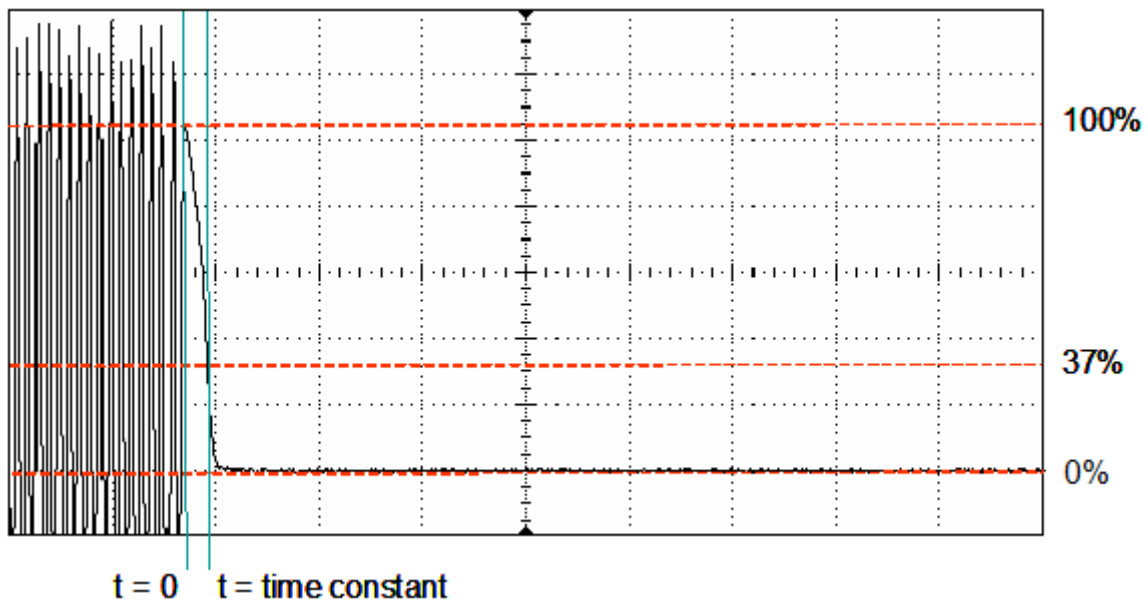
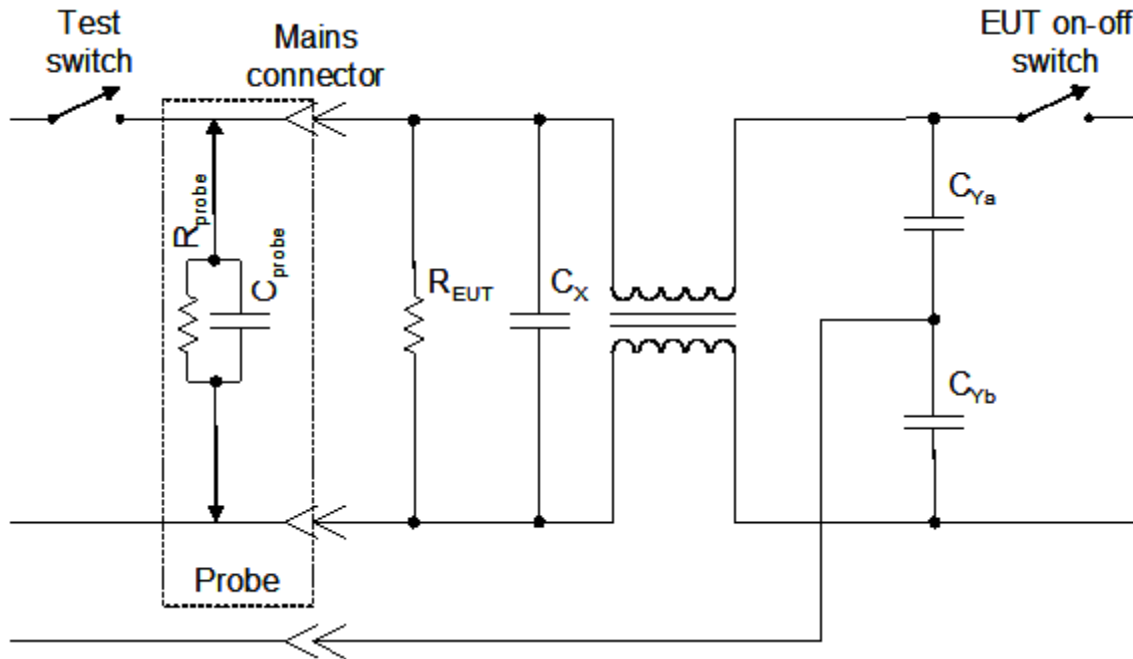

Figure 4b
Figure 5
The requirement specifies a time constant rather than a discharge down to a specified voltage within a specified time interval. If the standard required a discharge to a specific voltage, then the start of the measurement would need to be at the peak of the voltage. This would mean that the switch (see Figure 5) would need to be opened almost exactly at the peak of the voltage waveform. This would require special switching equipment. The time constant is specified because it can be measured from any point on the waveform (except zero). See Figure 4b.
The problem is that the process of measurement affects the measured time constant. This is because the oscilloscope probe has a finite resistance and capacitance. See Figure 5.
- 2) Connect the oscilloscope probe between L1 and L2 as shown in Figure 5. For safety during this test, use a 1:1 isolating transformer between the mains and the EUT. Set the scope sweep speed to 0.2 milliseconds per division (2 seconds full screen).
The standard is a bit misleading by ignoring a 9% error when a 100-megohm probe is used to measure the time constant associated with a 10-megohm discharge resistor (see Figure 5).